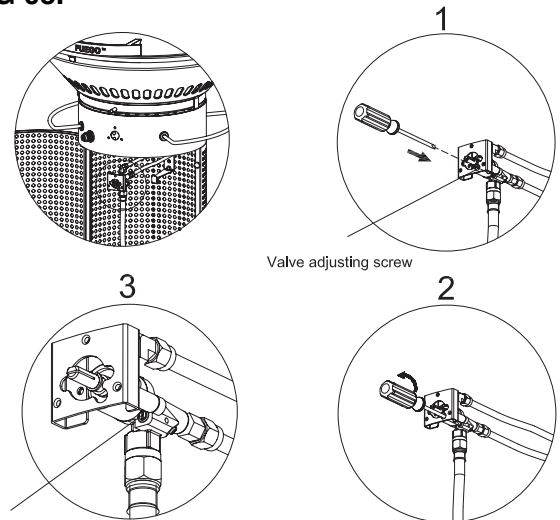

FIG 06.
- G. Turn the valve adjusting screw counter clockwise 100%. FIG 06.